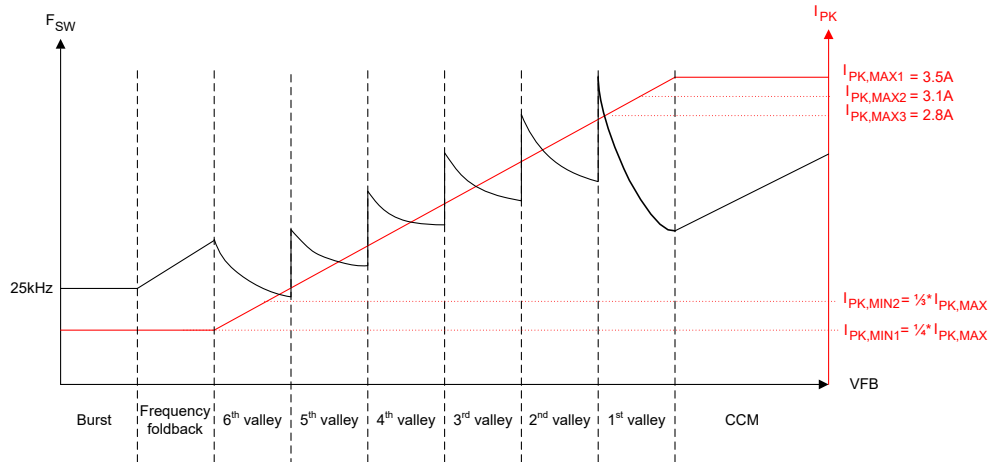
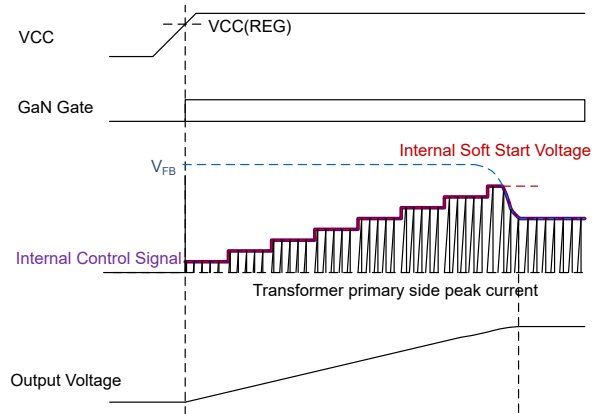

Figure 7-3. UCG2882x Control Law
Figure 7-8. Soft Start Sequence
Connect the feedback (FB) pin to the collector of the optocoupler for output regulation. This pin has an internal 60kΩ pull up for optocoupler bias. The instantaneous voltage on this pin determines the switching frequency, peak current and mode of operation (burst, foldback, valley switching or CCM) as per the control law in Figure 7-3 to deliver the required output power. Connect a 100pF or 220pF capacitor from this pin to ground for high frequency noise filtering.
Hence, in UCG2882x, in every switching cycle, the primary GaN HEMT turns off after reaching the peak current threshold and turns on next at a target valley in magnetizing ring during discontinuous mode (DCM) operation. The instantaneous primary peak current and target valley is determined by the feedback (FB) pin voltage as per the control law of Figure 7-3. Connect the FB pin to the optocoupler collector. The negative feedback loop sets FB pin voltage to the required value to support a certain V_{OUT} and P_{OUT} on the output. The device can operate in one of the four modes of operation: burst, frequency foldback, valley switching or continuous conduction mode, as described later.
In the control law shown in Figure 7-3, the UCG2882x offers flexibility to select a max peak current $I_{PK,MAX}$ to optimize for the switching frequency at rated load and transformer size. For each $I_{PK,MAX}$ setting, a scaling ratio of 1/3rd or 1/4th is available for the minimum peak current $I_{PK,MIN}$. This $I_{PK,MIN}$ value determines the switching frequency and losses in light load conditions when the flyback converter is operating in frequency foldback or burst modes. For all values of $I_{PK,MAX}$ and $I_{PK,MIN}$, the slope of control law peak current vs feedback voltage remains the same, as per Equation 1. Table 7-5 shows the threshold voltages for transition between different modes and between valleys for different peak current settings of Table 7-2.
The UCG2882x is designed to operate with soft switching and primary FET turn-on at a valley to reduce switching losses. The converter operates in valley switching except during peak load transients during which control can transition to CCM mode (if enabled using CDX pin). During valley switching mode, the target valley and peak current threshold are governed by the control law of Figure 7-3 and Equation 1:
As shown in Figure 7-3, once the boundary of 1st valley QR operation is reached with increasing output power, the control clamps I_{PK} to the maximum selected value $I_{PK,MAX}$, and begins to reduce the secondary conduction time T_{OFF} in CCM mode. This reduction in T_{OFF} is proportional to increase in FB pin voltage, until 50% of the QR mode off-time to reach maximum 1.5× the QR mode output power delivery capability. Use a primary magnetizing inductance L_M large enough to not hit the frequency clamp during CCM mode and avoid any subharmonic oscillations which can increase output voltage ripple, depending on application requirements. For long duration output power transients, the converter returns to 1st valley QR mode after expiry of the 10ms CCM timer and continues to deliver the largest possible output power at the transition point of QR and CCM modes, while operating in QR mode. The device offers flexibility to enable or disable CCM mode operation with a resistor from the CDX pin to GND, as per values in Table 7-4.
When turned on, a flyback converter starts with 0V output voltage. The low voltage can cause the feedback voltage FB to clamp the maximum value and trigger overload protections. To prevent the clamping from happening, the UCG2882x starts in soft start mode. As Figure 7-8 shows, during this time, an internal FB voltage ramp increases in eight steps from 0V to its maximum value in 4ms. The maximum value of internal FB ramp at FB pin voltage is equivalent to 80% of the I_{PK_MAX} setting and changes for different resistor settings on the IPK pin. During soft start, the smaller of internal ramp voltage and actual FB pin voltage is used to determine the device operating point in the control law of Figure 7-3. Once the internal FB ramp voltage reaches the maximum value at the end of 4ms is when control is transferred to FB pin voltage for output regulation. Soft start sequence is executed every time at start up or when recovering from fault (auto-retry or latch) and brown-out conditions. The minimum frequency clamp is changed to 10kHz only during soft start (which is otherwise at 25kHz during normal operation). The 10kHz minimum frequency clamp helps at start-up when valleys are missing and the control law forces turn-on of primary GaN HEMT every 100μs from the last turn-on edge (if valleys are missing), to charge the output capacitor.